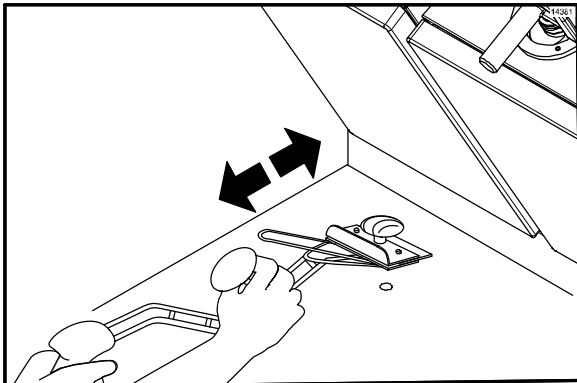

Figure 75
- Scrape the **lower** grill surface with the grill scraper, in a front to back direction. (See Figure 75.)